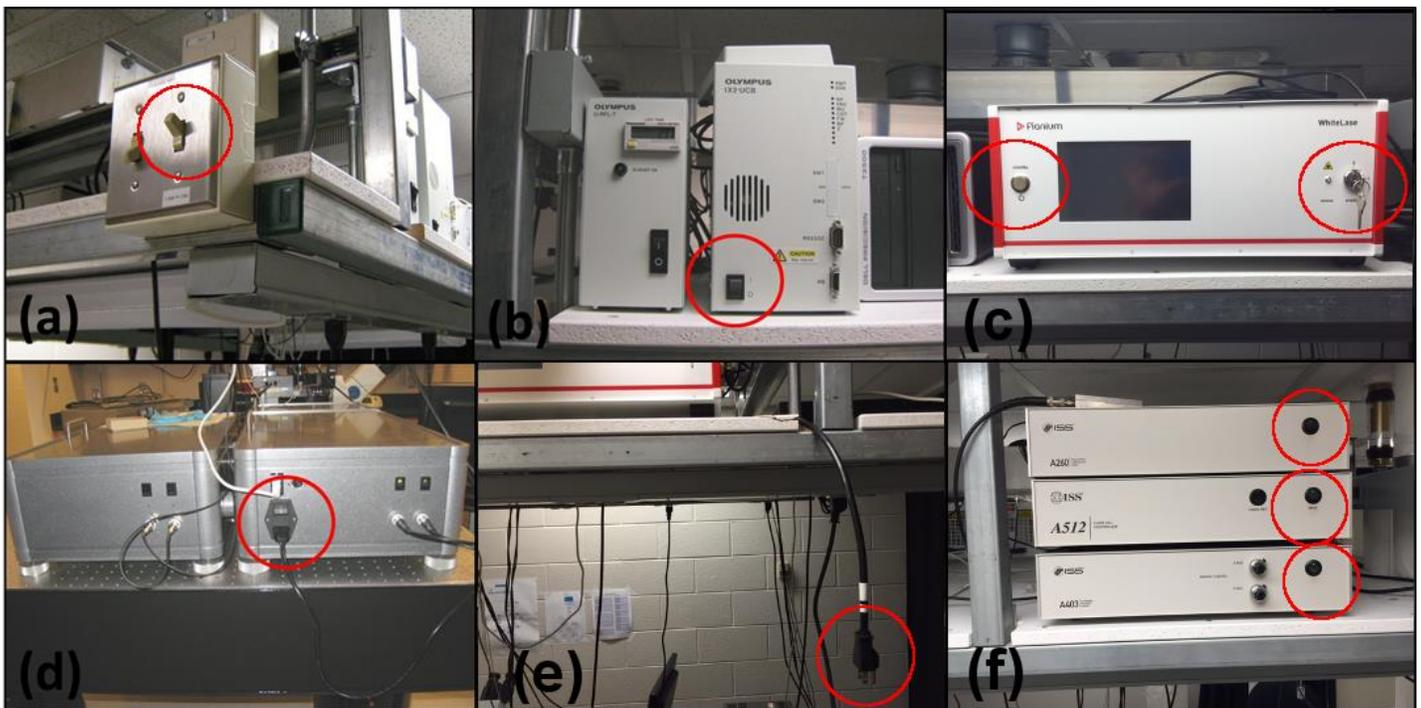

Fig. 3: Start-up procedure locations
Standard start-up: turn on the following, in this order (following **Fig.3.x** order):
1. Switch “LASER ON” sign – light switch located on table shelf, near entrance (**Fig.3.a**)
2. Microscope controller – located on table shelf facing the hallway (**Fig.3.b**) (NOT the epifluorescence controller on the left)
3. Laser power switch – located on the left side of the front panel (**Fig.3.c**) – will need to wait 2 minutes for system to boot before turning key switch on the right
4. Detection unit master switch and detectors – located at the back (**Fig.3.d**)
5. AOTF power cord plug – located on table shelf above the detection unit (**Fig.3.e**)
6. 3-axis DAC controller (A512) main switch – located on table shelf above the IX-81 microscope *CENTER position* (**Fig.3.f**)